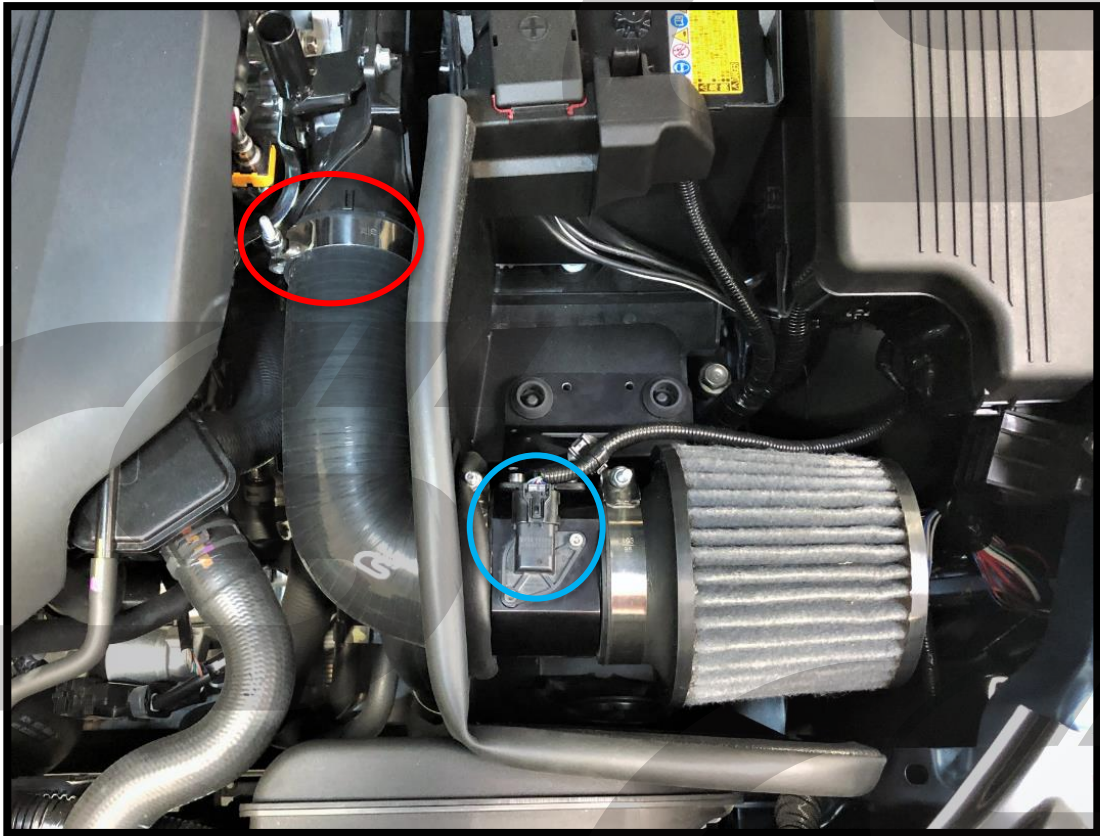

Figure 5m
- l) Reposition the 70-78mm clamp onto the turbo inlet pipe and tighten the clamp until secure. Clamp shown tight in **Figure 5m** with **red circle**.
- m) Reconnect the MAF sensor wiring to the MAF sensor. Shown plugged in in **Figure 5m** with **blue circle**.